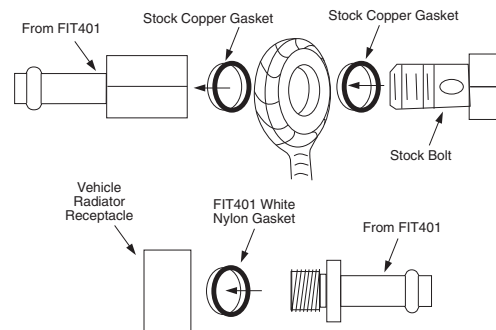

Figure 59. FIT401 Installation on Ford Escort
3. Install the **T-TECH** male half into the radiator using the white nylon gasket (supplied) (see Figure 59).